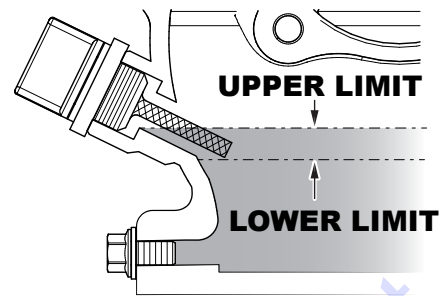

Figure 6. Engine Oil Dipstick (Oil Level)
4. If the oil level is low (See Figure 6), fill to the edge of the oil filler hole with the recommended oil type (Table 6). Maximum oil capacity is 0.26 quarts (0.25 liters).